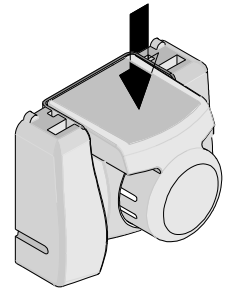

Figure 7B
5. Press the red insert as far as it will go as shown in Figure 7B.
6. Holding onto the lower part of the locator with your thumb and index finger, insert the locators top hooks (2) into the hand tool top slots.